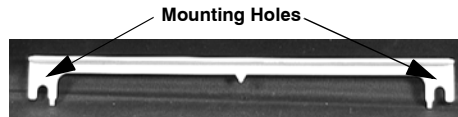

Figure 2. Mounting Hole Locations
2. Position the mounting template at the desired location and mark the mounting hole locations (Figure 2). You must allow at least 2-1/2 inches above it for the display.